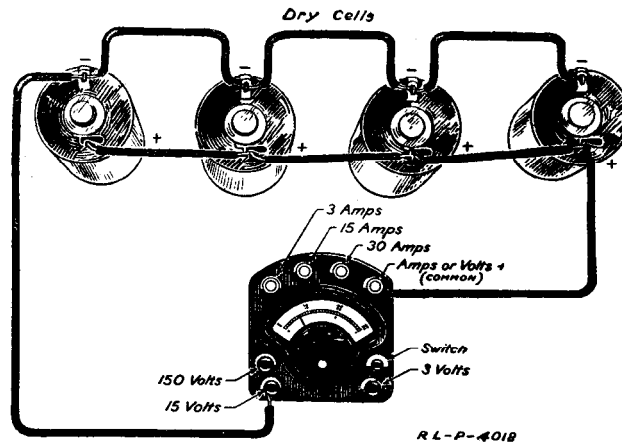

Fig. 7.—Parallel connections of four dry cells.
(7) Which battery showed the higher reading?
(8) Why does one type of battery give a greater reading than the other?
*Parallel connections.*—It is also possible to connect batteries in such a way that increased capacity in amperes may be obtained. Batteries connected in this way are said to be connected in *parallel*. Four reserve dry cells, connected in parallel are shown in Fig. 7. The positive terminals of the four cells are connected together and the negative terminals are connected together. One wire from the meter is connected to one of the positive poles while the other wire is connected to a negative pole, as shown. It is possible with this connection to draw four times the current which can be obtained from one cell.
13. Take four cells and connect all the positive terminals together and all the negative terminals together. (See Fig. 7.) Cells connected in this manner are said to be connected in parallel. Test the voltage of this combination. Record the reading in the table prepared.